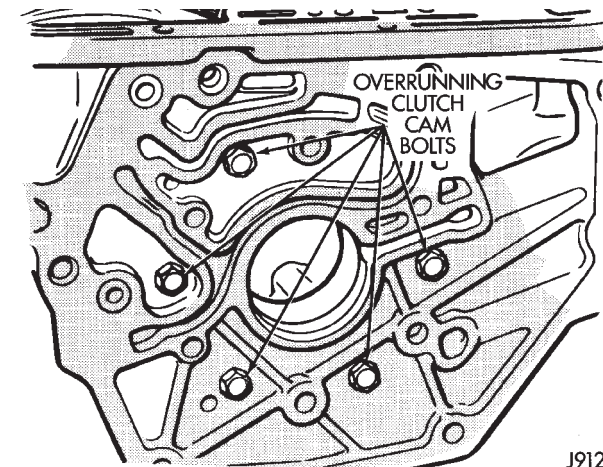

Fig. 149 Overrunning Clutch Cam Bolt Locations
(41) Remove bolts attaching overrunning clutch cam to case (Fig. 149).